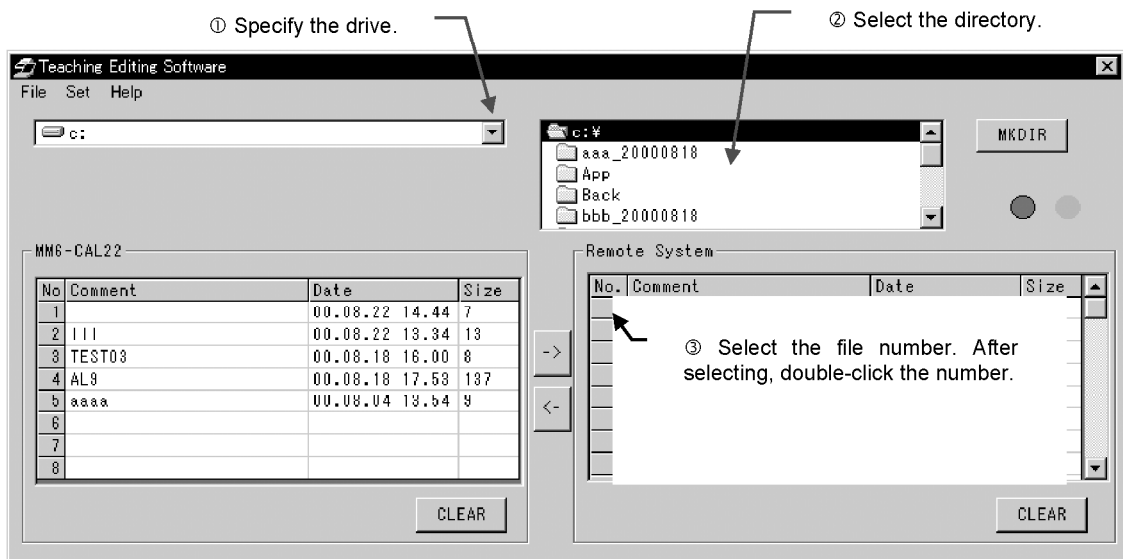

Fig. 2-5
1. From the Main window (Fig. 2-5), select the drive name where you want to save the newly created program.